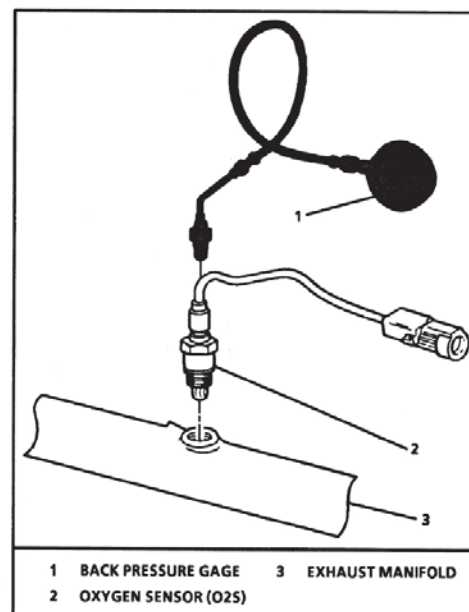

Figure 1
2. Install exhaust backpressure gage in place of the HEGO Refer to Figure 1.